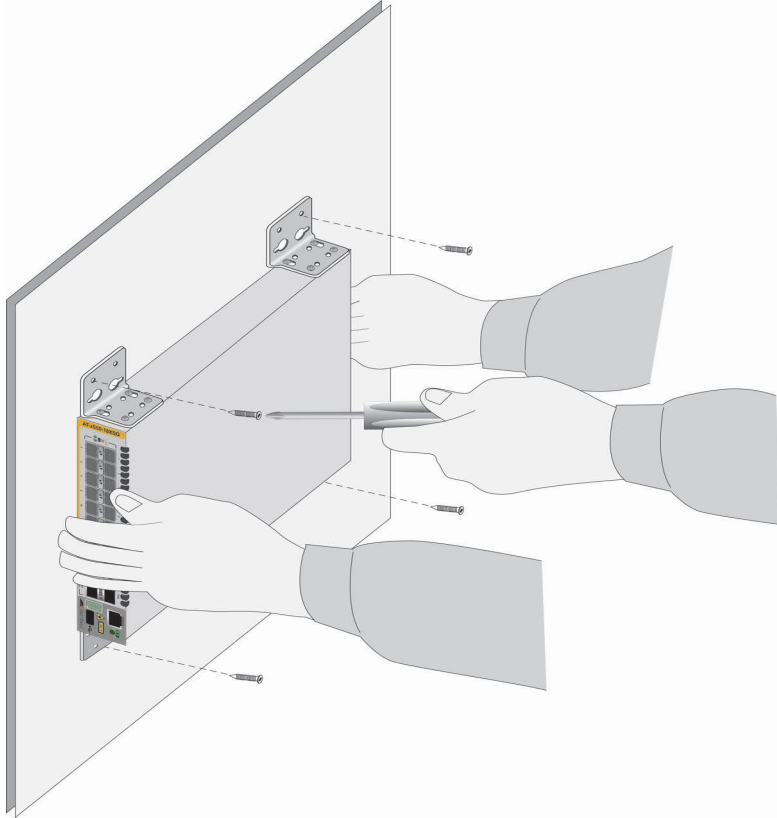

Figure 62. Installing the Switch on a Concrete Wall
8. Have another person hold the switch at the selected wall location while you secure it to the wall with the supplied M4x32mm screws. Refer to Figure 62 on page 121.